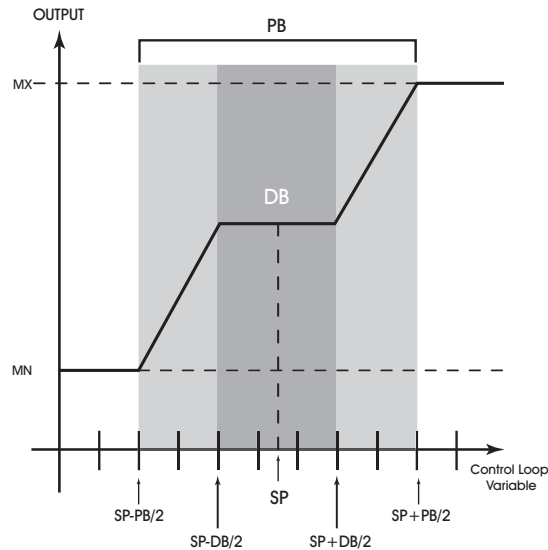
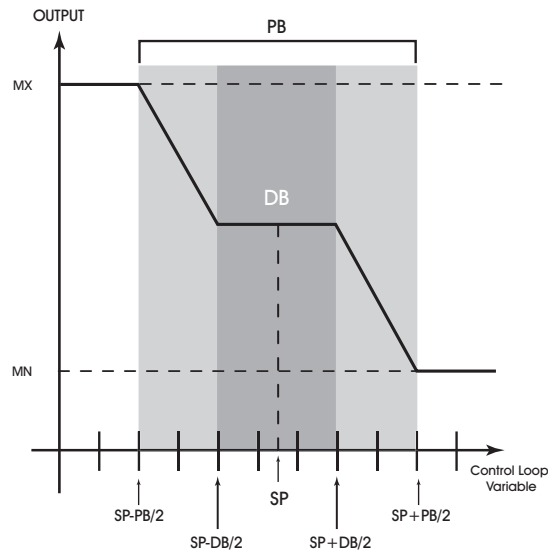

Figure 3-3: Proportional Band For Normal Acting Control ($SG=0$)
Figure 3-4: Proportional Band For Reverse Acting Control ($SG=1$)
setpoint. This control range can be expressed as a band centered on the setpoint: from 70° to 74° , or four degrees, the *proportional band* (**PB**). Refer to Figure 3-3 and Figure 3-4.
The **(SG) Control Action** property refers to the control sign of the floating point control loop. The control sign is used to determine whether the control loop is *normal acting* or *reverse acting*. A normal acting control loop causes an increase in output position when the value of the input variable *increases* (see Figure 3-3). A reverse acting control loop causes an increase in output position when the value of the input variable *decreases* (see Figure 3-4).